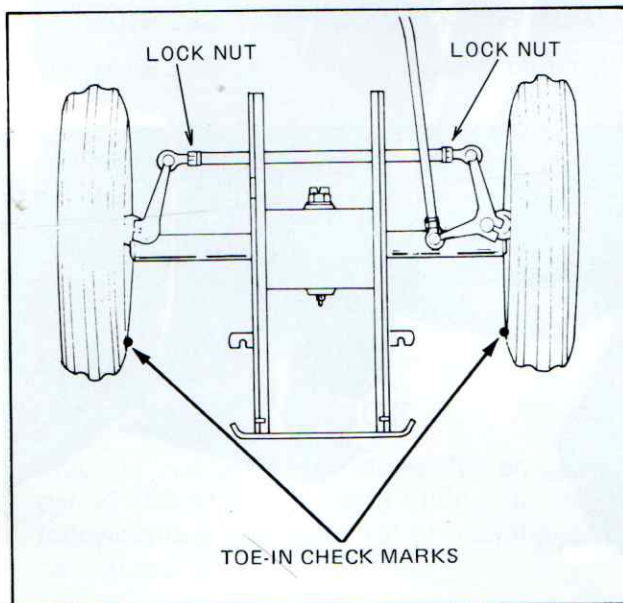

Figure 59 — Checking Toe-In
1. Determine the straight-ahead position by turning the steering wheel from lock to lock and then halfway back. After rolling the tractor forward with the front wheels in the straight-ahead position, mark the front of the wheels (not the tires) at wheel hub height, Figure 59.